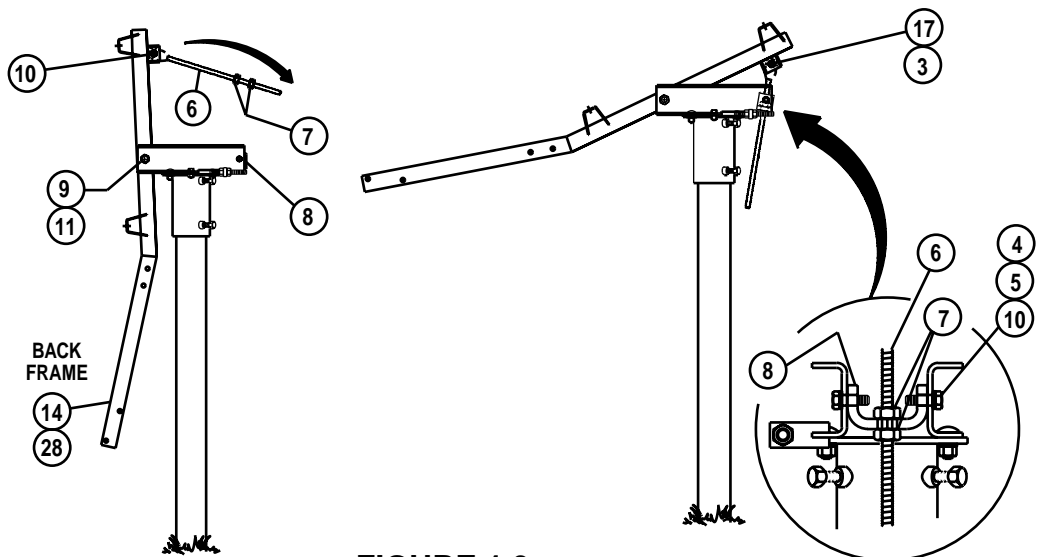

FIGURE 1.3
3 - Install backframe assembly onto yoke cap assembly. Secure with M20 x 140mm hex bolt and hex nut (9 & 11). Loosen M12 hex bolt (10) and remove one M22 hex nut (7) from elevation adjusting screw (6) and insert into trunnion (8). Trunnion (8) in position shown is for 13° and above elevation. If elevation is less than 13°, pivot trunnion 180°. Reinstall M22 hex nut (7). Do not tighten. (Refer to Figure 1.3)
4 - Run up M22 hex nuts (7) on elevation screw (6) and place backframe in birdbath position. (Refer to Fig. 1.3)
8 - Swing reflector down by loosening nuts (7) on elevation screw (6). When reflector is in a convenient position, (approximately 20°), snug tighten nuts on elevation screw. (Refer to Figure 1.3)